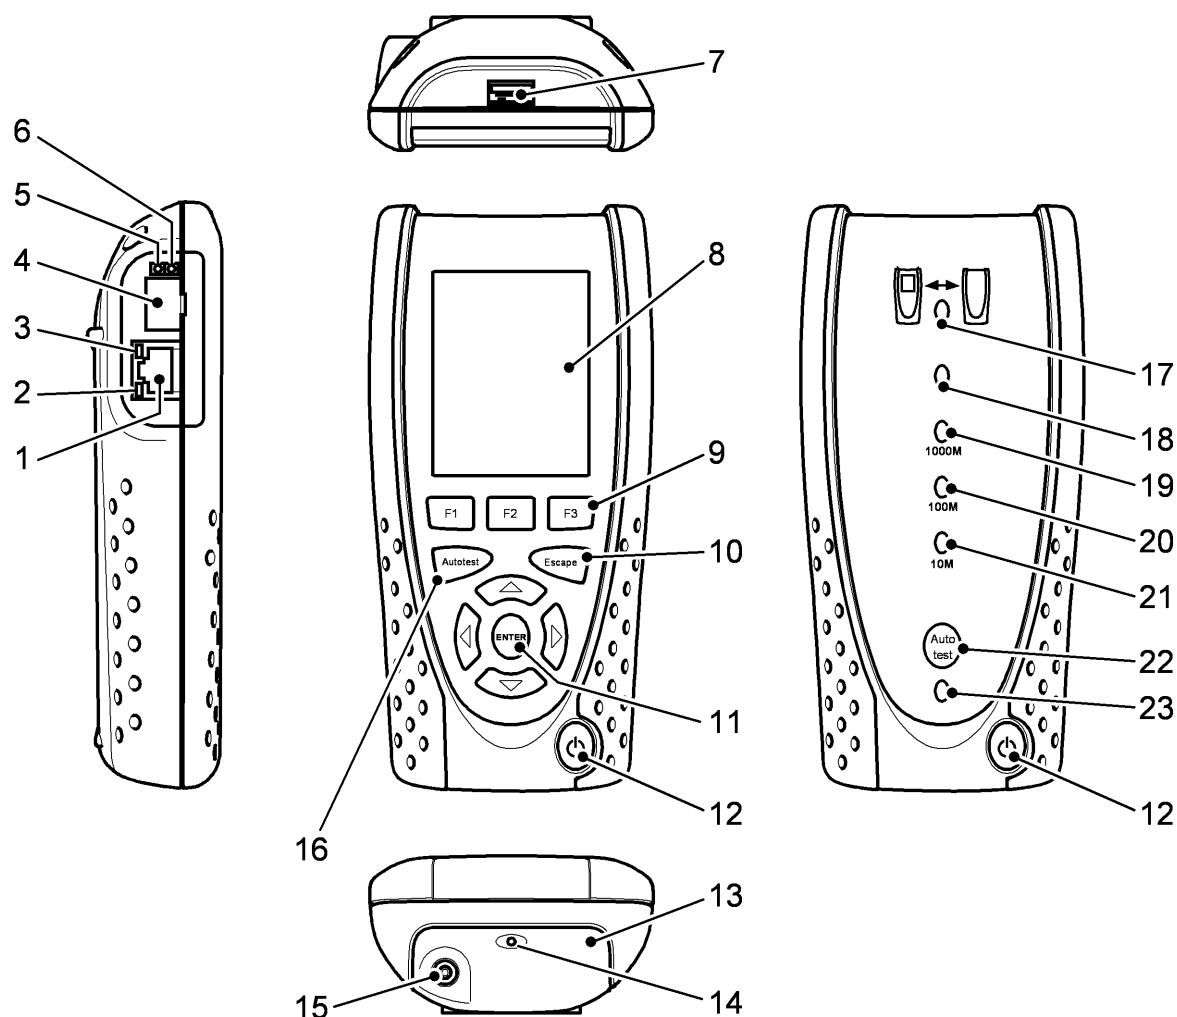

Fig 4
¹ Fig 4 items 4, 5 & 6 – SignalTEK II FO only.
² Fig 4 item 13 shows optional power module.